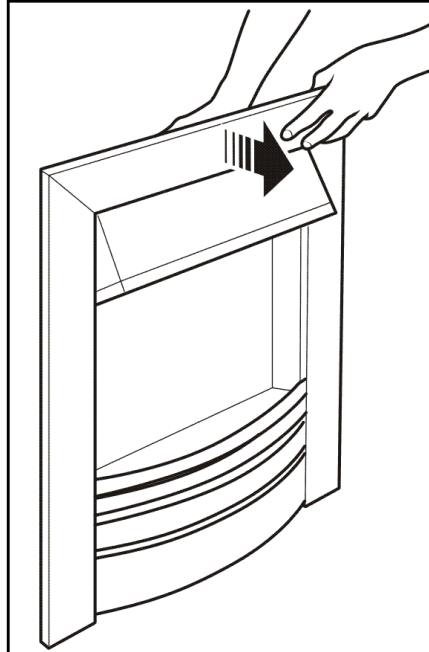

Figure 3. Removal of Adage and Fusion fascia.
1. Very strong magnets attach the fascia to the heater. Support the rear of the heater and gently pull the fascia forward (See figure 3).